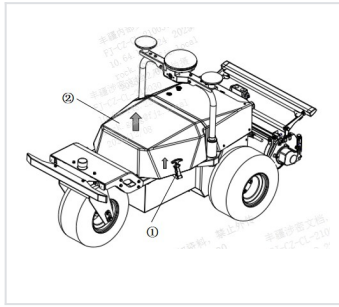
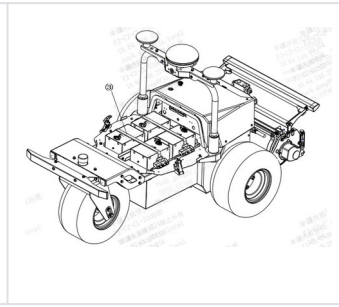

Figure 3
Figure 4
1. Lift up the T-buckle handles on the left and right sides of the rear cover (as shown in Figure 3), and then remove the rear cover (as shown in Figure 4).